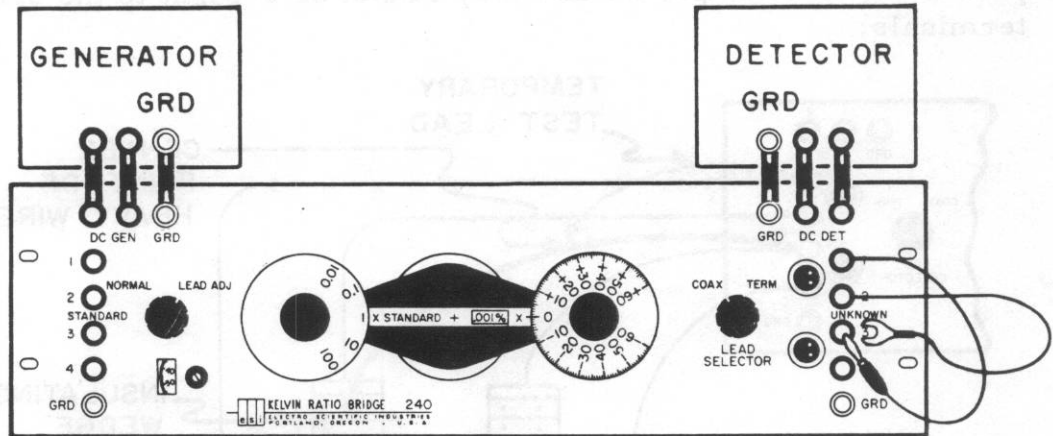

FIG. 2.6.3
1. Connect the outer ends of the UNKNOWN 1 and 2 leads to the UNKNOWN 3 terminal (one in the top and one in the side of the terminal), as shown in Fig. 2.6.3.